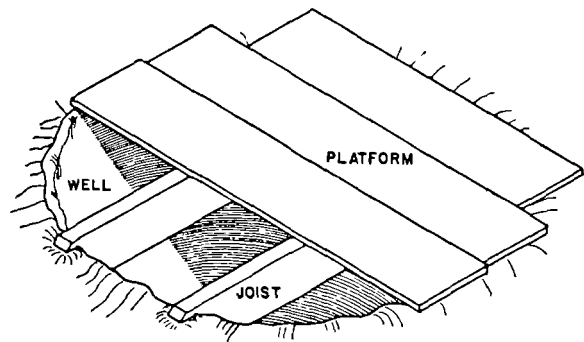

Figure 1. Platform Construction for Dug Wells
Cover the well opening with wooden planks as shown in Figure 1. If the well is over one (1) meter in diameter, supporting joints should be placed under the wooden platform. The top of the platform should be level with the surface of the surrounding earth.